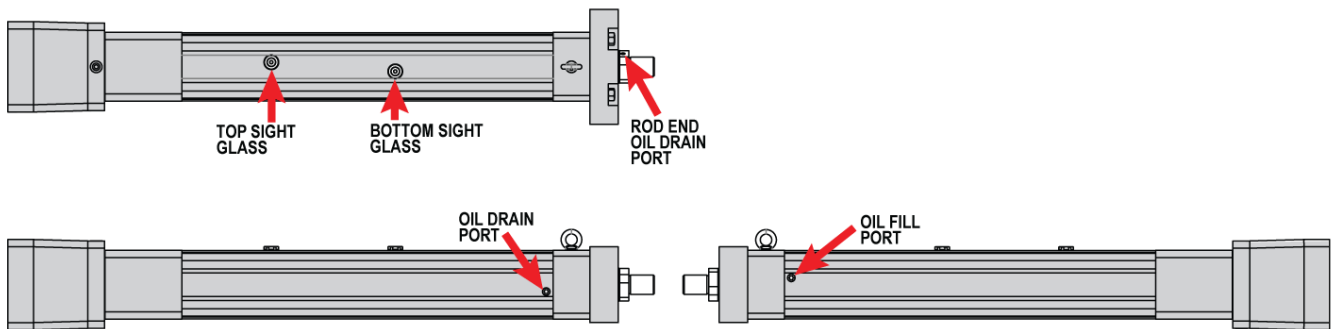

Figure 1: Locations of Oil Drain Port, Top & Bottom Sight Glass and Oil Fill Port
- There are two drain ports at the front of the actuator (See figure 1);